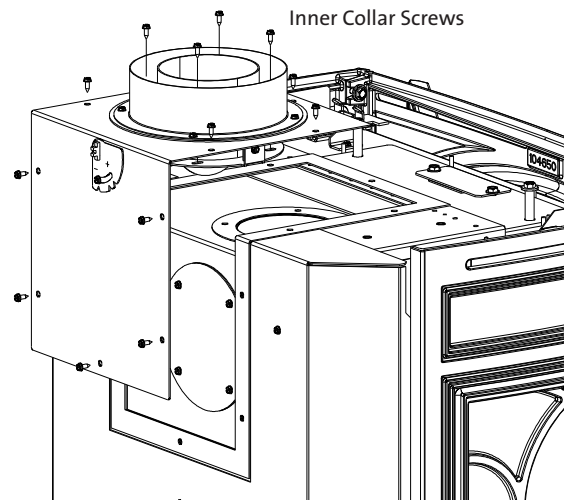

Figure 3. Remove 4 inner collar screws and 10 perimeter screws to detach the Vent Adaptor from the firebox.
1. Use a 1/4" nut driver to remove four inner screws from around the Vent Adaptor collar. See fig. 3. Remove five screws from around the top perimeter, and five additional screws from the rear perimeter. The vent adaptor will come away as an assembly.